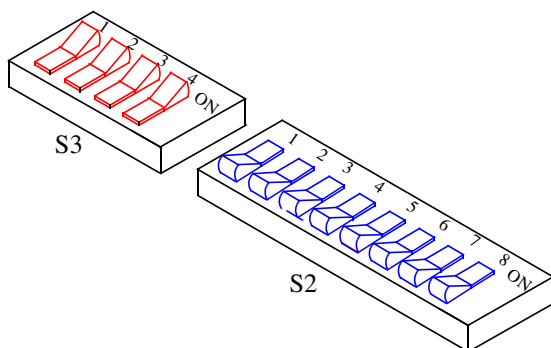

Figure 7-10 NEW HSDB SWITCH SETTINGS
1. Switch settings on the MPC for RS-485 operation are shown in Figure 7-10.